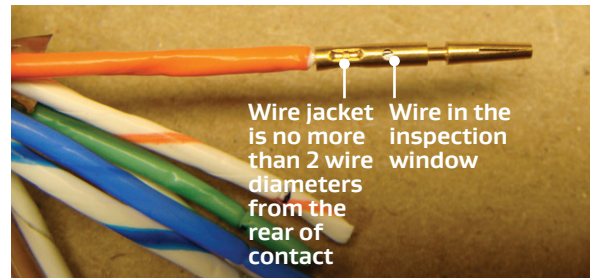

Figure 28: Crimping the contact
16. Crimp the contact onto the primary wire using the M22520/2-01 crimper. Set the K1999 Die and selector to 4 (Figure 28). The primary wire should be visible in the inspection window and the wire jacket should be no more than 2 wire diameters from the rear of the contact.